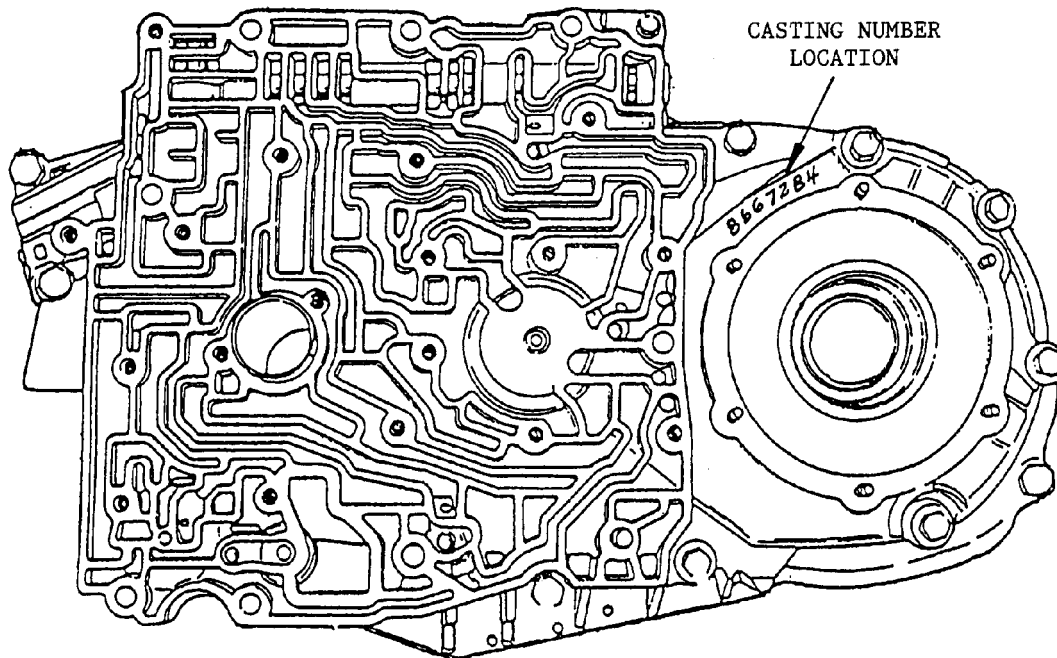

Figure 5
(3) **VALVE BODY GASKETS** - Both the valve body to spacer plate and spacer plate to channel plate gaskets change to accommodate the new hydraulics. They are easily identified by the part number ink stamped on each gasket. See the gasket chart in Figure 5 for proper identification.